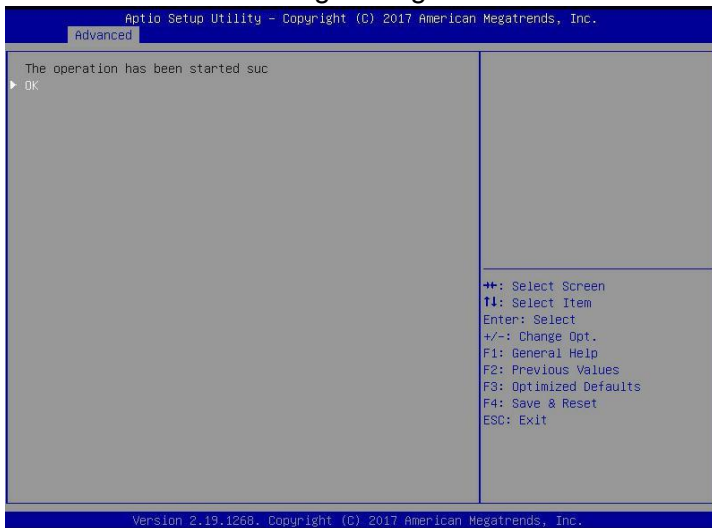

Figure 6-70
f) Enter the interface shown in Figure 6-70 to complete the initialization of the logical disk.
✧ Figure 6-70 Finish initializing the logical disk